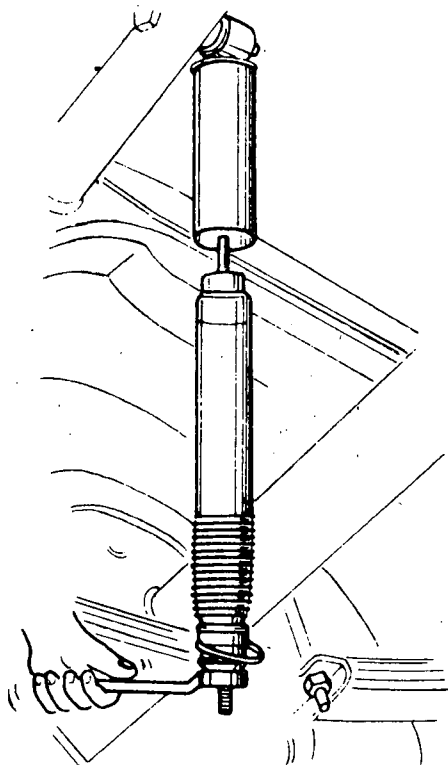

Fig. 1
- a) Remove the nuts that hold the shock (fig. 1).